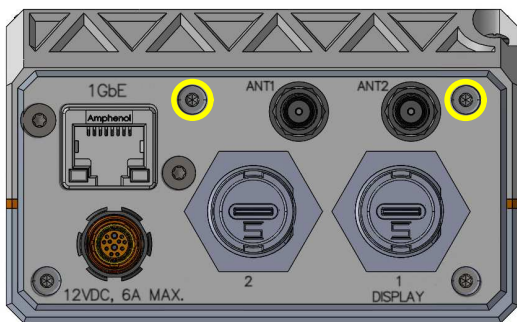

Figure 2. EDGETAK face plate screws connected to enclosure top (see also Figure 14)
1. Remove at least the top two Torx T8 screws from the faceplate as shown in Figure 2.